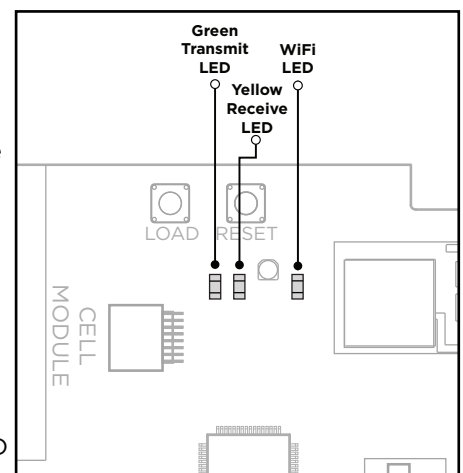

Figure 4: XTLplus Series Wireless LEDs
The RESET button is located on the top of the circuit board and is used to reset the panel. To reset the panel prior to reprogramming, press the RESET button without powering down the system. After resetting the panel, begin programming within 30 minutes. If you wait longer than 30 minutes, you must reset the panel again. See Figure 4 for the RESET button location.
- ▶ **Yellow:** The yellow LED flashes every time the panel receives a message from a programmed wireless transmitter. When a message is sent by a transmitter, typically by pressing or releasing the TAMPER button, the yellow LED should flash indicating that the panel received a message from the transmitter. If the LED never flashes, the transmitter is not getting through to the panel. This could be because of a misprogrammed serial number or the transmitter is too far away. Under normal operation, the yellow LED flashes at every trip of every wireless transmitter and when the transmitters perform their periodic check-in. It is not unusual for this LED to stay off for many minutes at a time when no transmitters are communicating. See Figure 4 for Wireless LED locations.
The Green Wi-Fi LED is located to the right of the wireless LEDs in the upper right of the circuit board. Wi-Fi LED displays solid when the network is connected and is off when there is no network connectivity. See "Figure 4: XTLplus Series Wireless LEDs" for Wi-Fi LED location.